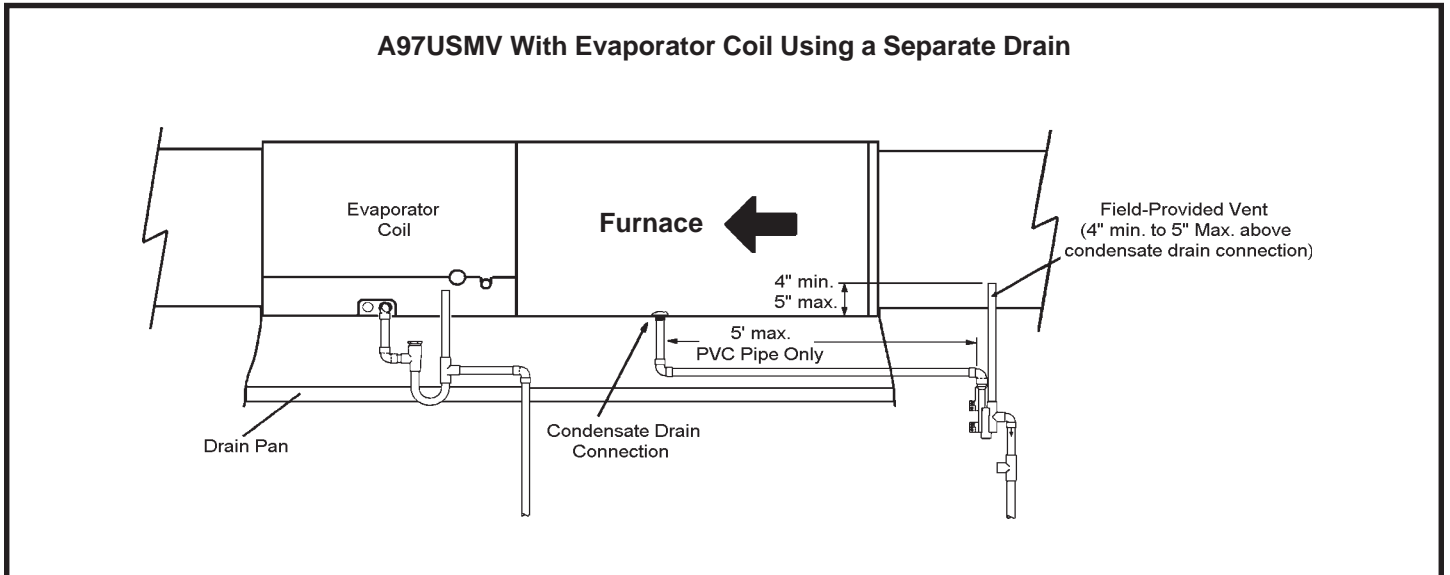
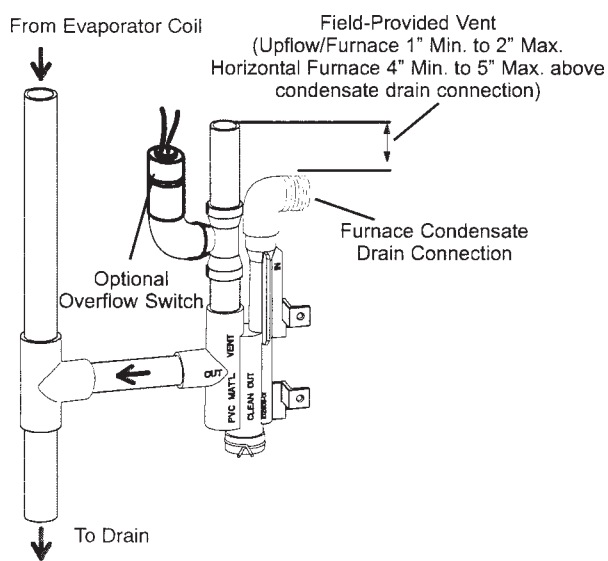

Figure 33
Figure 35
3. Install the cap over the clean out opening at the base of the trap. Secure with clamp. See Figure 33.
4. Install drain trap using appropriate PVC fittings, glue all joints. Glue the provided drain trap as shown in Figure 33. Route the condensate line to an open drain. *Condensate line must maintain a 1/4" downward slope from the furnace to the drain.*
5. Figures 33 and 34 show the furnace and evaporator coil using a separate drain. If necessary the condensate line from the furnace and evaporator coil can drain together. See figures 35, 36 and 37.
Horizontal furnace (figure 33 or 37) - In horizontal furnace applications the field provided vent must be a minimum 4" to a maximum 5" length above the condensate drain outlet connection. Any length above 5" may result in a flooded heat exchanger if the combined primary drain line were to become restricted.